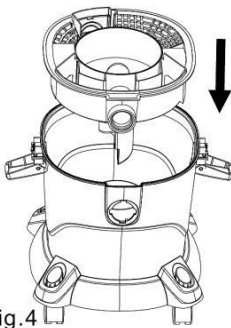

Fig.4
Step 4: Put down the filtration assembly (Fig. 4).